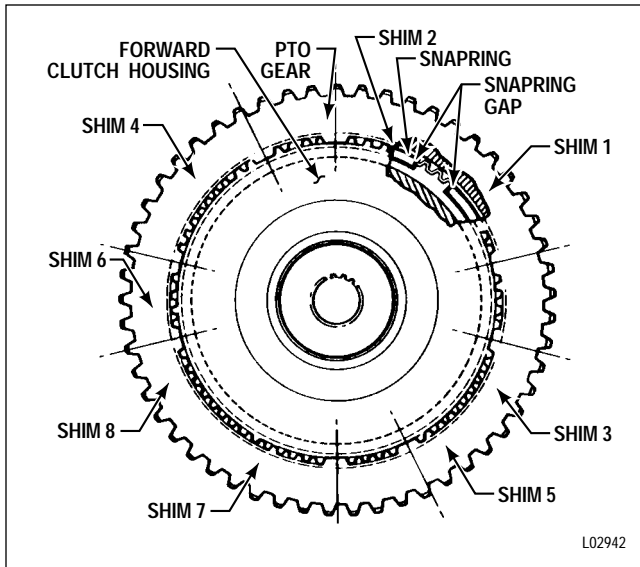

Figure 6-35. Removing PTO Gear From Forward Clutch Housing (Later Models Without Retarder)
- For earlier models with PTO gear and without retarder, proceed with Step (1).
- For later models with PTO gear and without retarder, skip Step (1) and proceed with Step (2)
- For models without PTO gear and without retarder, skip Steps (1) through (8) and proceed with Step (9).
- For models with retarder, skip Steps (1) through (7) and proceed with Step (8).
(1) For earlier models with PTO gear and without retarder, place forward clutch and turbine shaft assembly 7 (Foldout 8) on the work table, with the shaft upward. Using a screwdriver, remove snapping 3 that secures PTO drive gear 4 to forward clutch housing 9. Remove gear 4 and snapping 5. Skip Steps (2) through (7) and proceed with Step (8).
(2) For later models with PTO gear and without retarder, locate the snapping gap by looking between the tips of the PTO gear internal splines and the roots of the housing splines. Light can be seen in the gap area.
(3) At the opening (omitted housing spline) closest to the snapping gap, insert a small screwdriver and push the snapping toward the housing until a $\frac{5}{64}$ x 0.020 inch (2 x 0.5 mm) steel strip, 2 to 3 inches (50–75 mm) long can be inserted in the root of the housing spline nearest the snapping gap (Figure 6-35).
(4) Repeat Step (3) at the opposite side of the snapping gap.